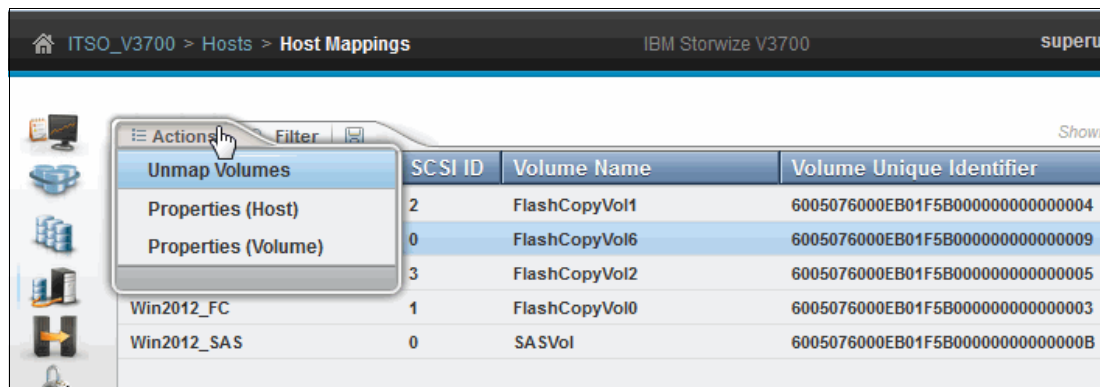

Figure 8-37 Host mapping actions
2. As shown in Figure 8-37, select a mapping and open the **Actions** menu to open the following options:
Selecting a mapping and clicking **Properties (Host)** from the Actions menu (as shown in Figure 8-37 on page 383) opens the Host Properties pane. For more information, see 8.1.5, “Host properties” on page 373.
Selecting a mapping and clicking **Properties (Volume)** from the Actions menu (as shown in Figure 8-37 on page 383) opens the Volume Properties pane. For more information about volume properties, see 8.5, “Volume properties” on page 396.